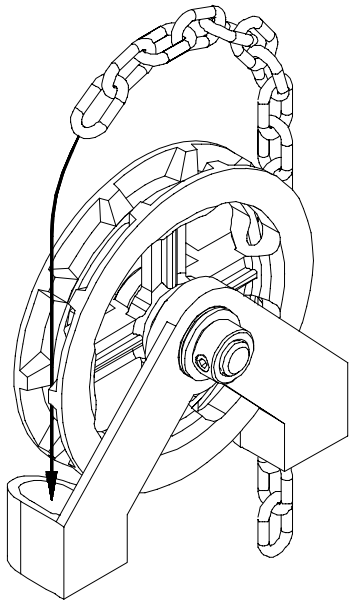

*Figure 10 Chain link*
3. Connect the sprockets with the drive chain, shorten to a suitable length and join together with the chain link provided in the hardware bag. To shorten the chain, punch out the pin that will leave an inside link nearest to the desired length. Connect the chain around the sprockets using the chain link (Figure 10).